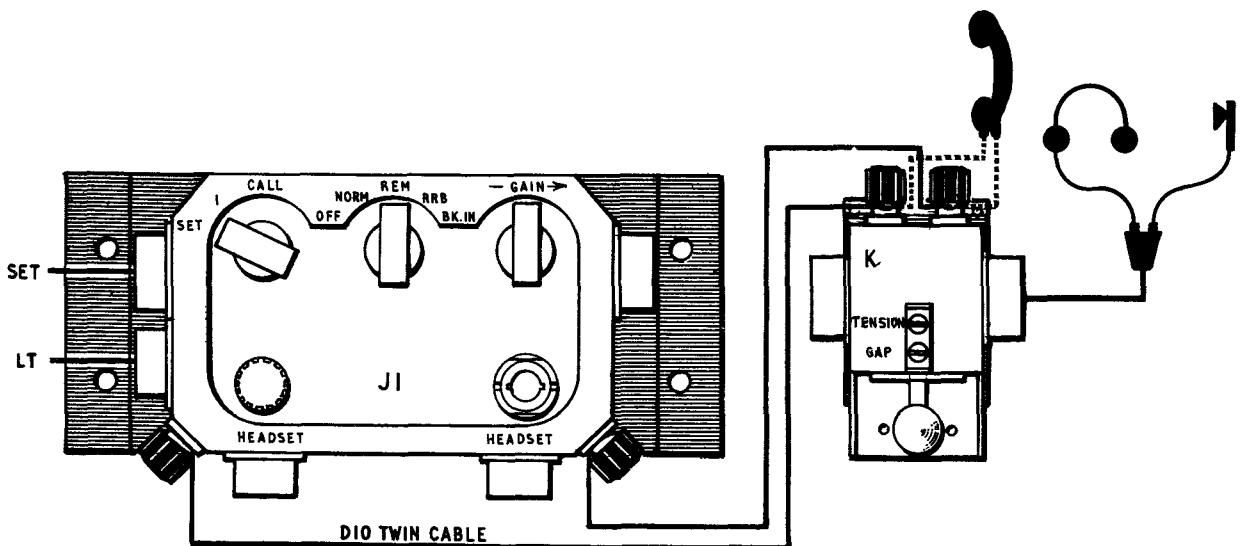

FIG. 9 REMOTE KEYING WITH J1 AND 'K' BOX
(4) Remote operation
- (b) Fit twisted pair D10 cable between the J1 and the 'K' box. See fig. 9. This cable can be up to 1,000 yards in length. Correct polarity is not essential.
- (e) Fit a headset to the 'K' box as shown in fig. 9. The operator will then hear keying tone in the earphones.
- (f) If the remote operator wishes to call or talk to a local operator on intercomm he must use a remote control telephone handset connected to the 'K' box as shown by the dotted lines in fig. 9. The microphone on the handset connected to the 'K' box cannot be used over the remote control cable. When fitting the D10 cable, thread it through the terminals on the 'K' box, pull through approximately six feet and tighten the terminals to pierce the insulation. Then connect the telephone handset to the cable.